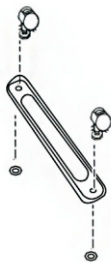
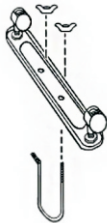

Fig. 1
Fig. 2
1. Fix the wheels in the brackets with the screw .Refer to fig.1 . Turn the radiator upside down. Place the castors between the last two panels on either end. Face the wheels up towards you and attach by means of the U-bolt and wing nuts supplied. Slide the U-bolt under the radiator frame and attach to the castor brackets. Refer to figs 2 and 3.